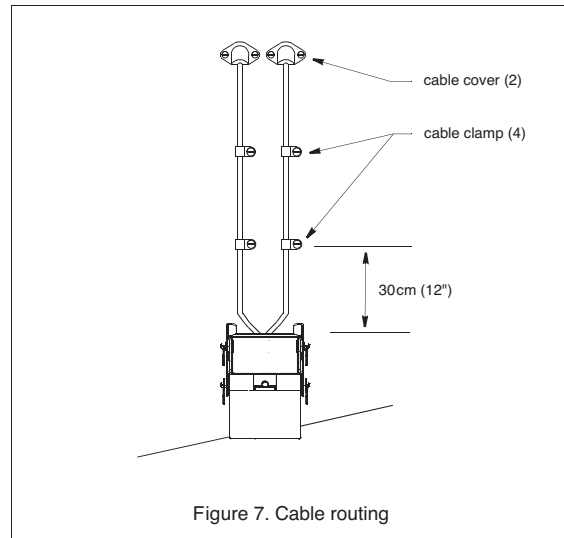

Figure 7. Cable routing
1. If holes must be drilled through the transom, choose a location **well above the waterline** (Figure 7). Check for obstructions such as trim tabs, pumps, or wiring inside the hull. Mark the locations with a pencil. Drill each hole using a 21 mm or 13/16" bit to accommodate the connector.